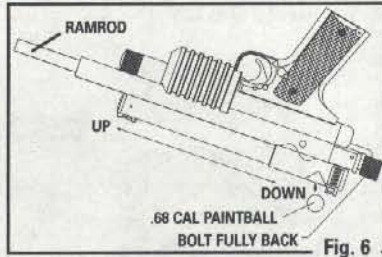

Fig. 6
- To make sure the barrel is clear, hold the marker upside down with the muzzle pointed in the upward position. Slide the forearm back until the sear engages with two clicks and the action stays open. Remove the barrel plug and insert a ramrod of the proper size into the muzzle end of the barrel. If there is a paintball chambered in the marker, gently push the paintball back so that it can fall into the magazine. Pull the sight/loader rearward, which allows the last remaining paintball to fall out (Fig. 6).